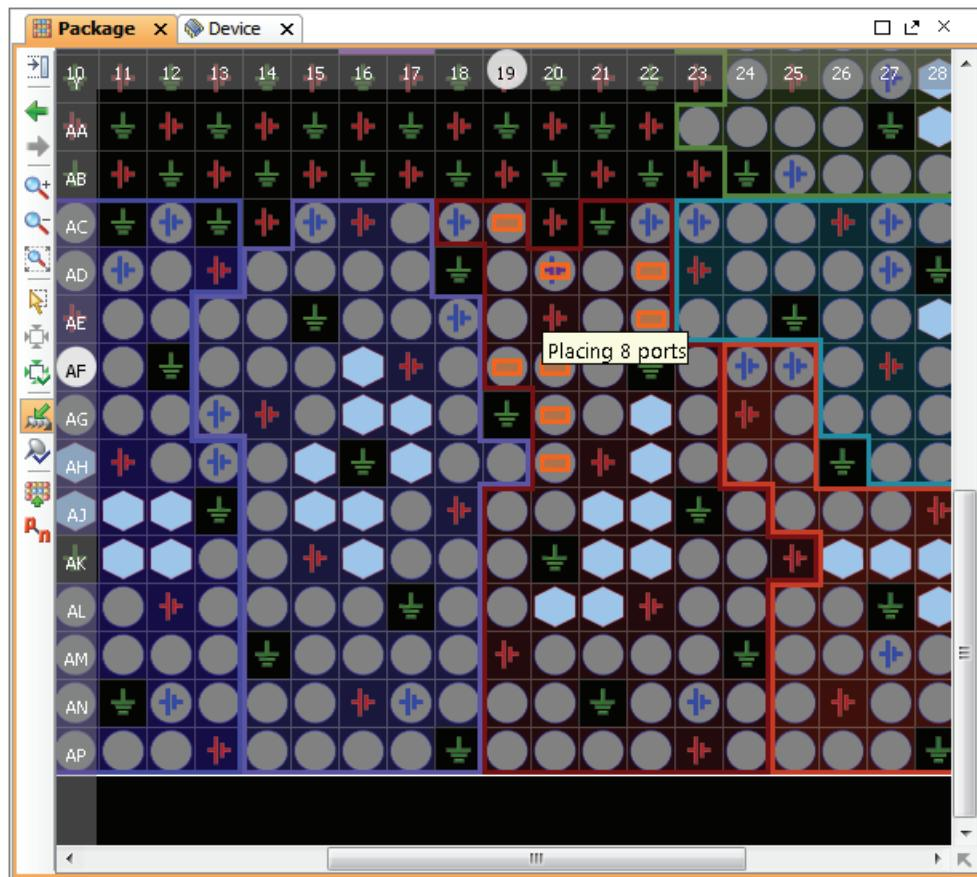

Figure 8-22: Placing I/O Ports in I/O Banks
3. Click on a pin or pad to assign the selected I/O ports. Figure 8-22, page 265 shows an I/O pad.